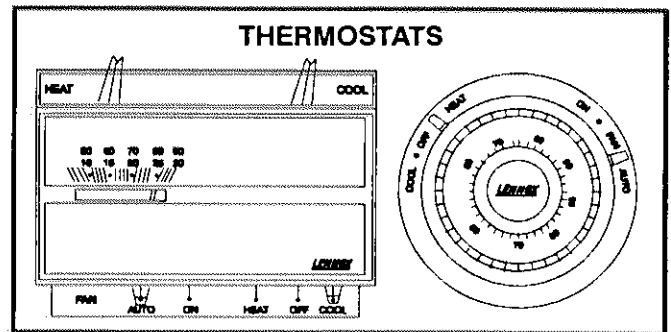

FIGURE 13
- 2— Set thermostat to lowest setting. See figure 13.